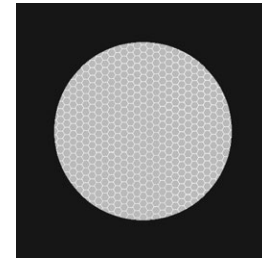

FIGURE 2.6. FIXED-PATTERN NOISE
(3) Black Spots. These are cosmetic blemishes in the image intensifier or dirt or debris between the lenses. Black spots are acceptable as long as they do not interfere with viewing the image. **No action is required if this condition is present unless the spots interfere with the operator's ability to view the image or to perform the mission.**
(4) Fixed-Pattern Noise. This is usually a cosmetic blemish characterized by a faint hexagonal (honeycomb) pattern throughout the viewing area that most often occurs at high light levels or when viewing very bright lights (see Figure 2.6.). This pattern can be seen in every image intensifier if the light level is high enough. **This**